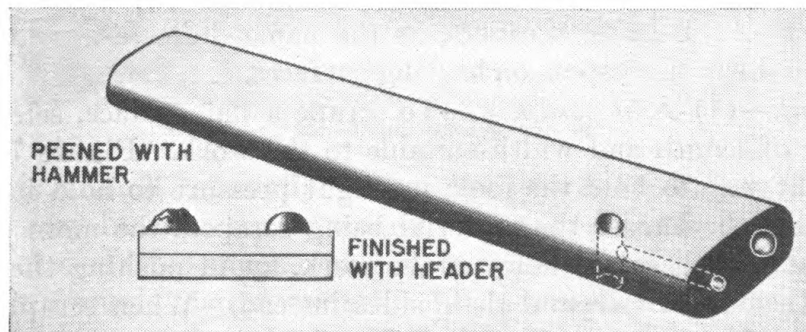

FIGURE 72.—Rivet header.
d. Form a head on the end of the rivet by striking its outer edges glancing blows with the peen of the hammer. If the head must be formed to shape, a rivet header (fig. 72) can be used. Before peening